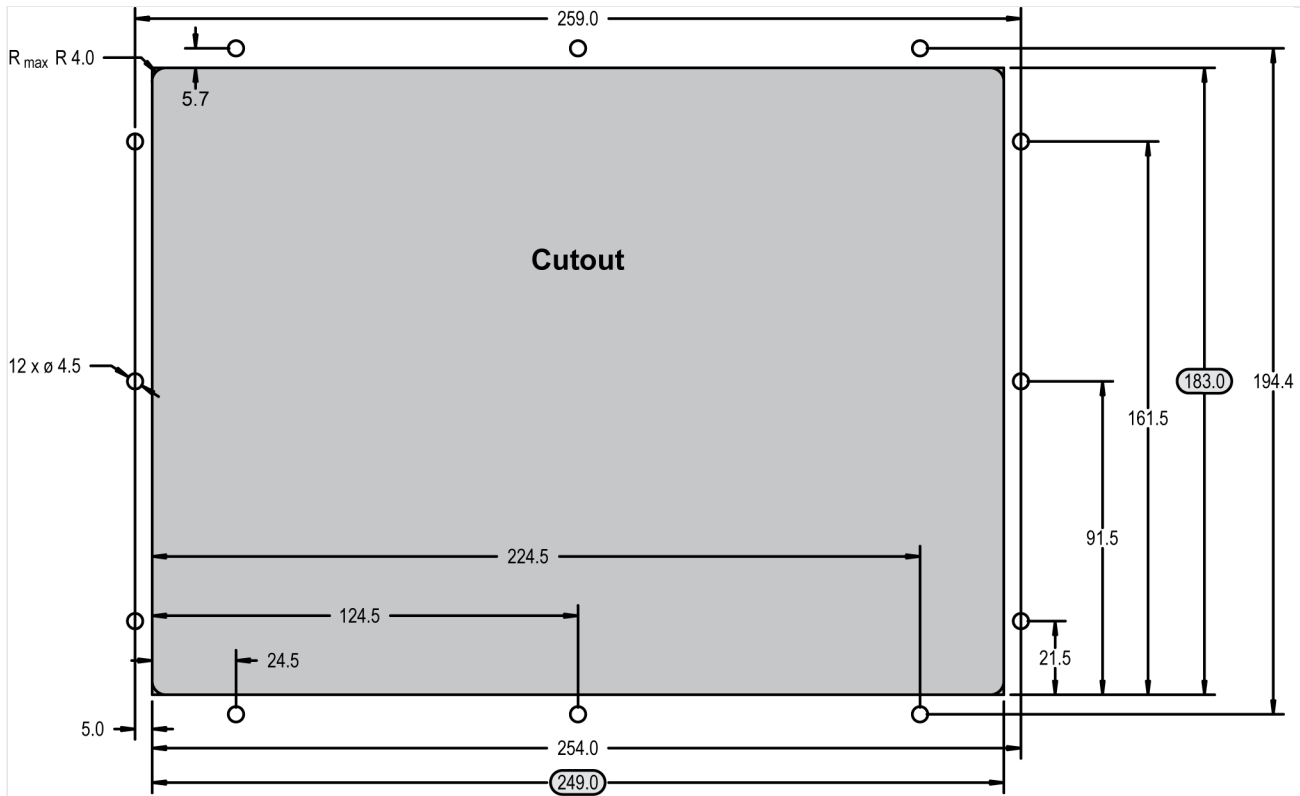

Fig. 17: Plastic housing - drill plan
The housing is equipped with 12 nut inserts (↪ Fig. 17), which must all be tightened properly to achieve the required degree of protection.
1. ➤ Cut out the panel and drill the holes according to the dimensions in  Fig. 17 (dimensions shown in mm).